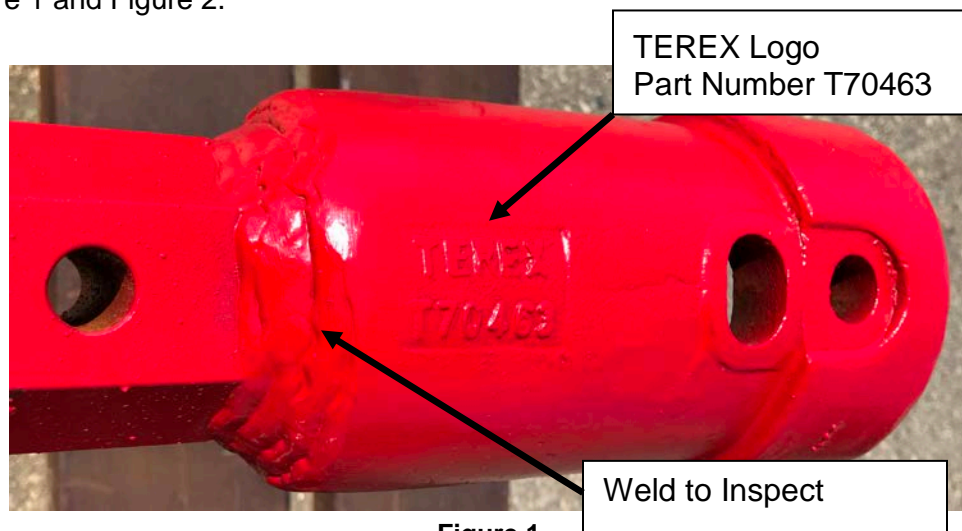

Figure 2
- a. This bulletin applies to one piece kelly bars that have a digger drive coupler welded to the hex shaft and the coupler is marked with TEREX logo and part number T70463 as shown in Figure 1 and Figure 2.